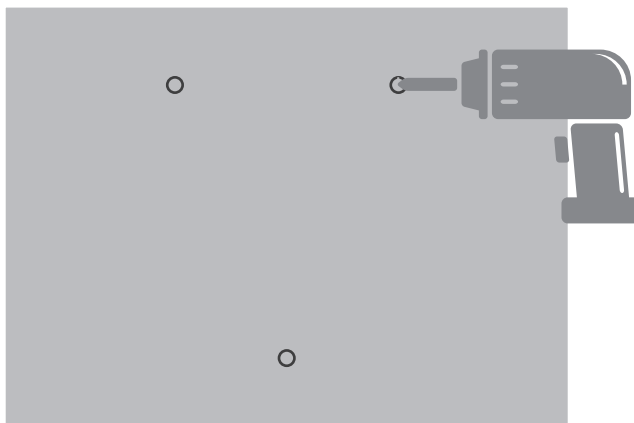

Fig. 5-5
3. Drill the mounting holes into the wall with a depth of at least 1.57"(40 mm). (See Fig. 5-5)